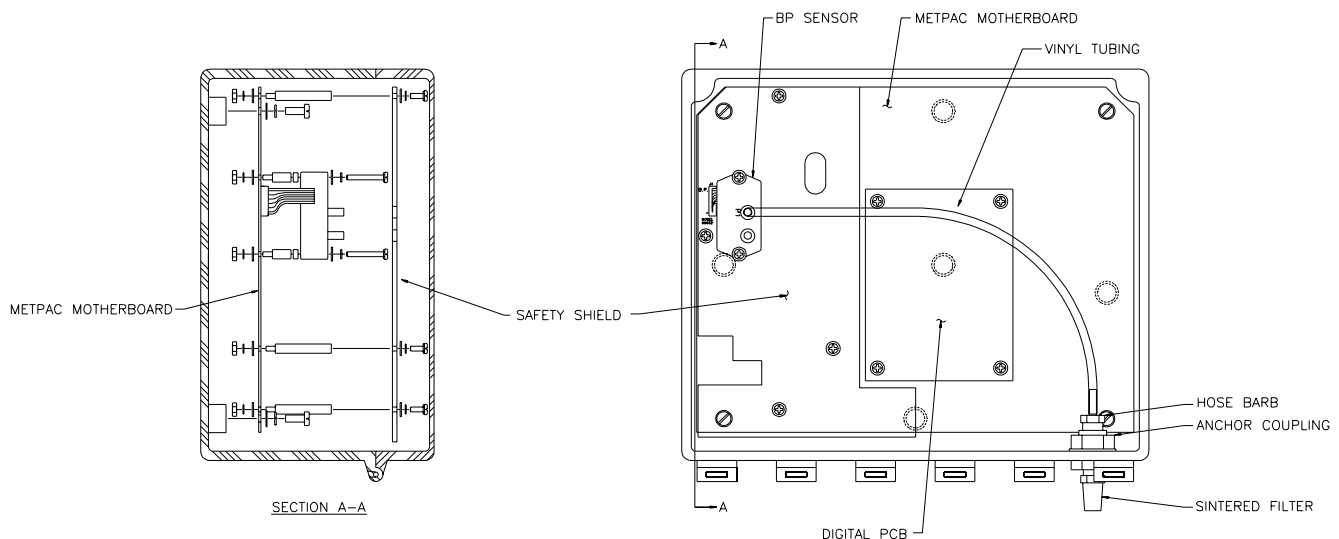

Figure 5
(See **Figure 5**)
- 1 With the enclosure door open, attach one velcro strip (loop type) to the top edge of the door (bottom edge when closed) and one to the door's back panel (front panel when closed) as shown in **Figure 5**.